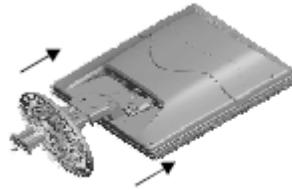
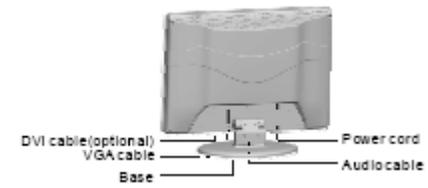

Fig.1
Fig.2
2.1 Base installation (Fig 1, Fig 2)